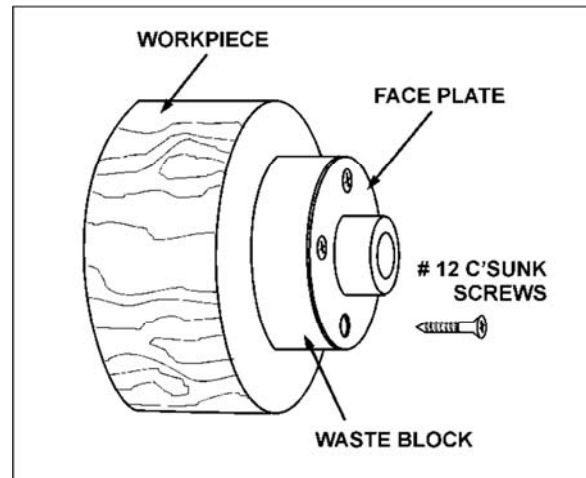

Figure 25
5. Make a block the same diameter as the face plate, Figure 25. Both waste block and workpiece should have flat surfaces for gluing.